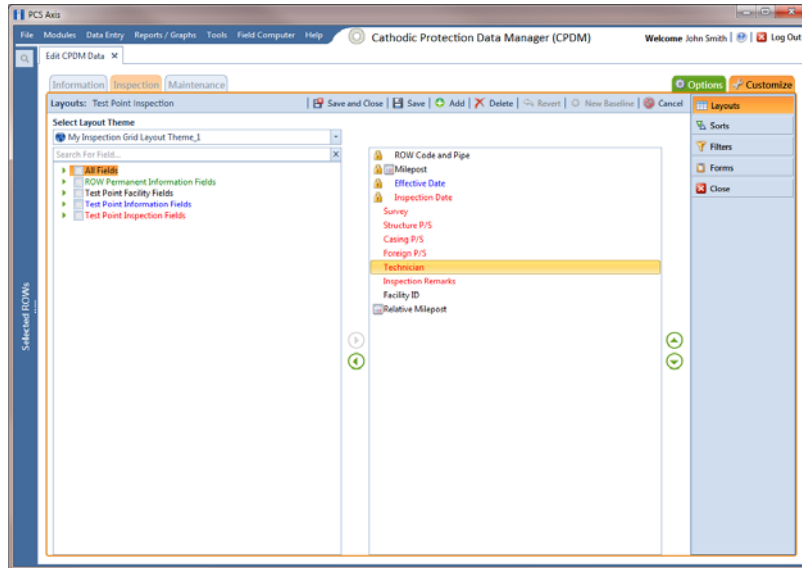

Figure 7-84. Layouts
- 8 Click  **OK** to save changes and return to the *Layouts* page (Figure 7-84, page 298).